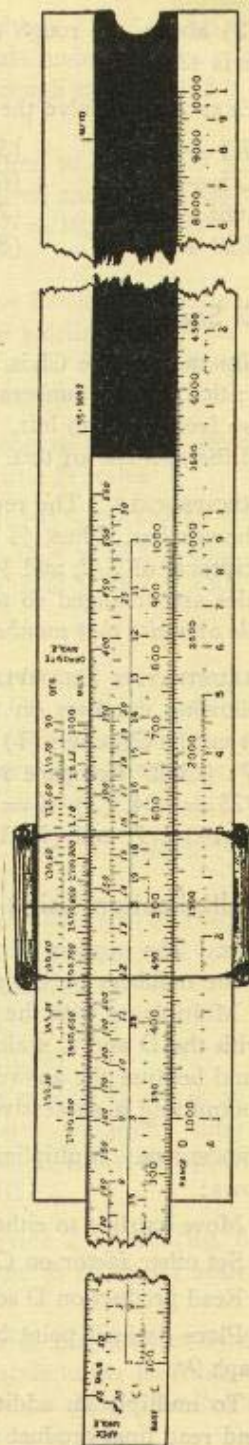

Figure 7. Rule setting for illustrative problem (par. 9b(2)).
(2) To multiply 3 by 5 (fig. 7), set right C index opposite 3 on D scale. Move indicator hairline to 5 on C scale and read product 15 under hairline on D scale.